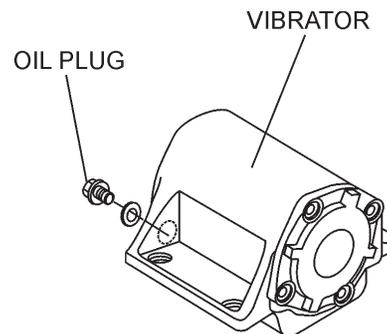

Figure 8. Vibrator Oil Plug
2. Check vibrator oil level by removing the plug (vibrator oil gauge) as shown in Figure 8. The oil level should be up to the oil plug. The vibrator holds 140 cc (approximately 4 ounces). **IMPORTANT**, if oil is required, replace using only SAE10W-30 motor oil.